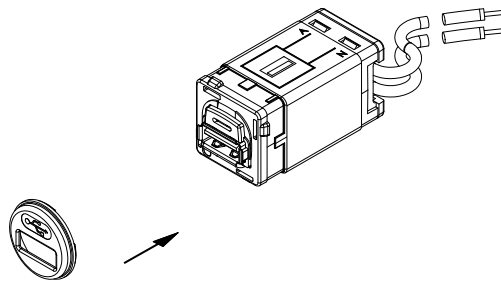

Figure 2: Attach preferred bezel to the HNS070UC
- Attach the the bezel to the HNS070UC, as per Figure 2.